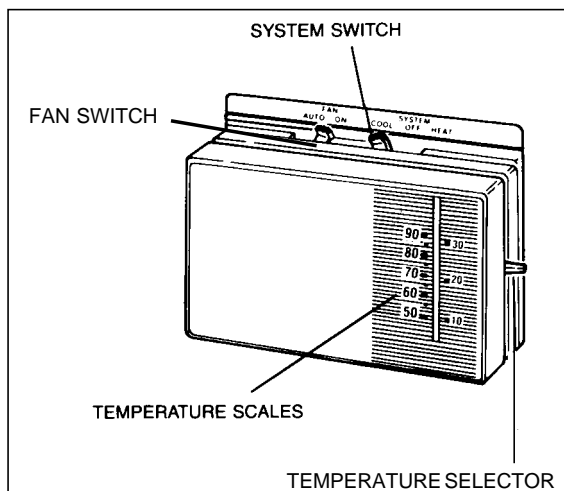

Figure 1. Typical Heat/Cool Thermostat
1. Set the thermostat system switch to COOL and the thermostat fan switch to AUTO. (See Figure 1)
1. Set the thermostat system switch to HEAT and the thermostat fan switch to AUTO. (See Figure 1)